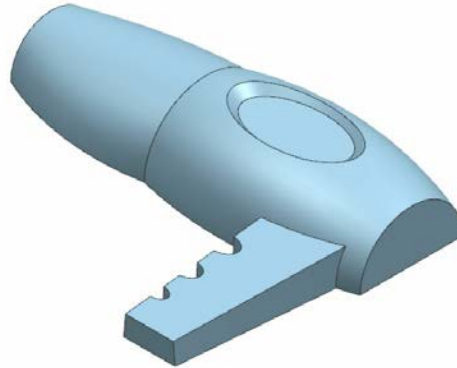

Figure 11-113 Bounded plane surface
10. Next, create the bounded plane surface by using the **Bounded Plane** tool, as shown in Figure 11-113.